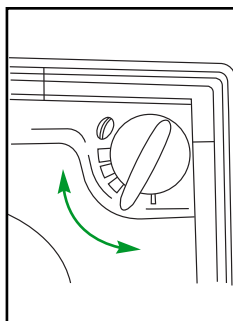

**Fig. 3**
2. Operating Buttons (See Fig. 3)